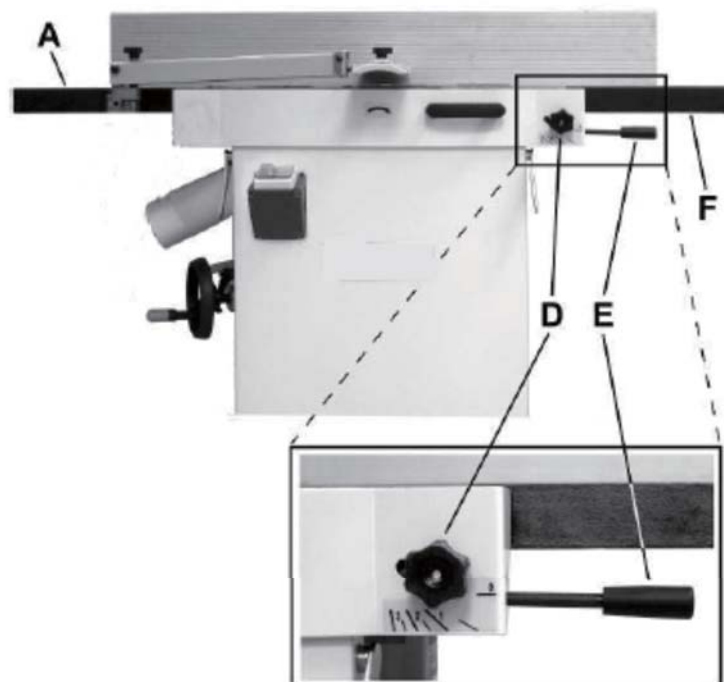
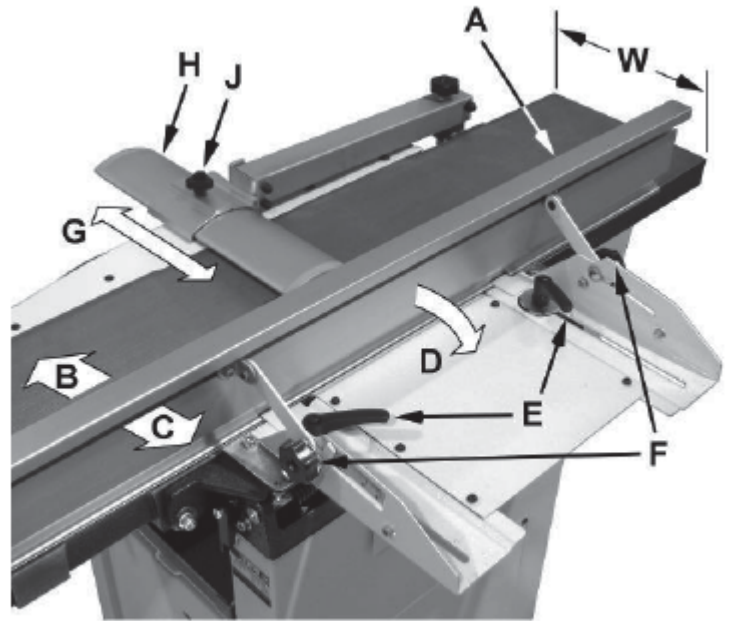

Figure 6
Figure 7
Referring to Figure 6:
Referring to Figure 7:
5. Place a straight edge (D) across the front of the outfeed table (F) and extending over the infeed table (G). Note the position of the infeed table (G). Note the position of the straight edge in Figure 6 with respect to the fence (H).
6. Raise the infeed table (G) until it contacts the straight edge (D).
- The straight edge should lie level across both tables. Move the straight edge to the back of the outfeed table as shown in Figure 7 and perform the same test. If the straight edge does not lie level, the front or back of one of the tables must be adjusted to make the tables coplanar. Proceed as described in